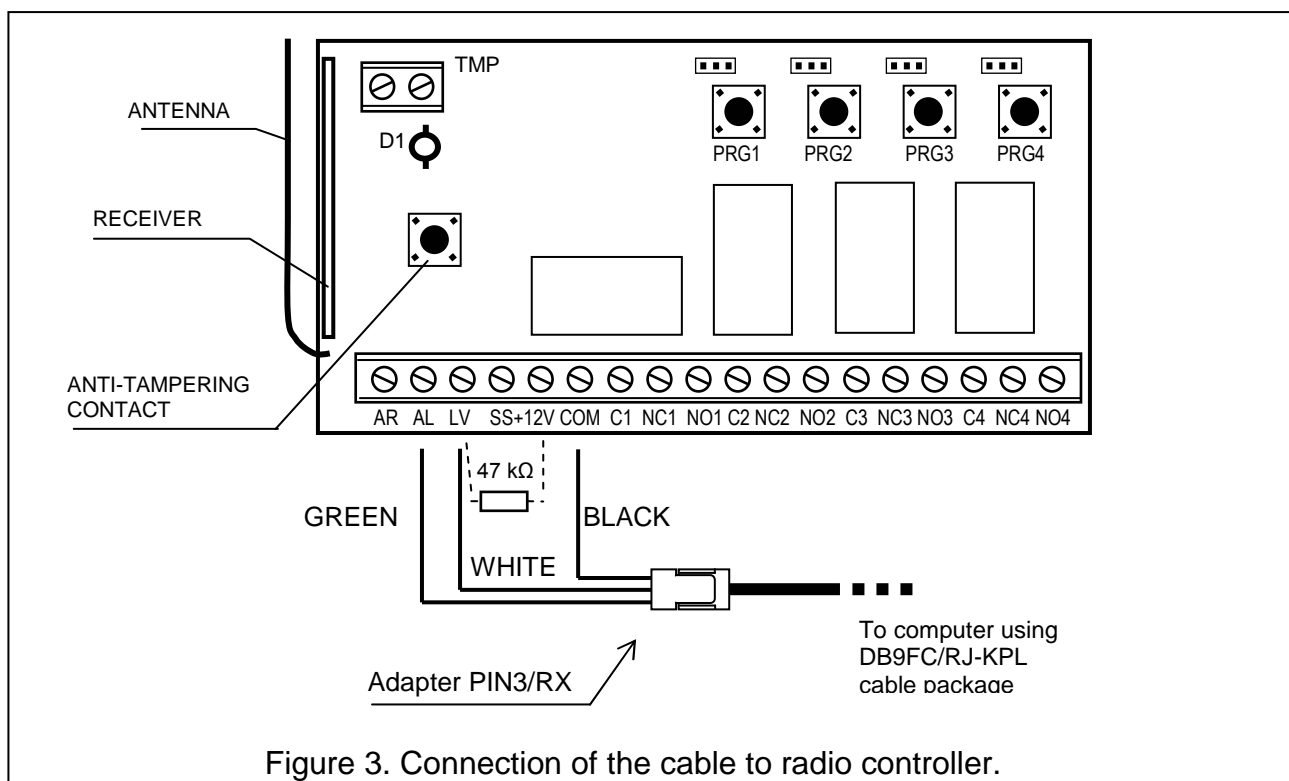

Figure 3. Connection of the cable to radio controller.
1. Connect the receiver to the computer by means of the DB9FC/RJ cable (see Figure 3). As the controller has no separate RS port socket, some terminals of the connecting block are used for data transmission by reprogramming the purpose of the same.